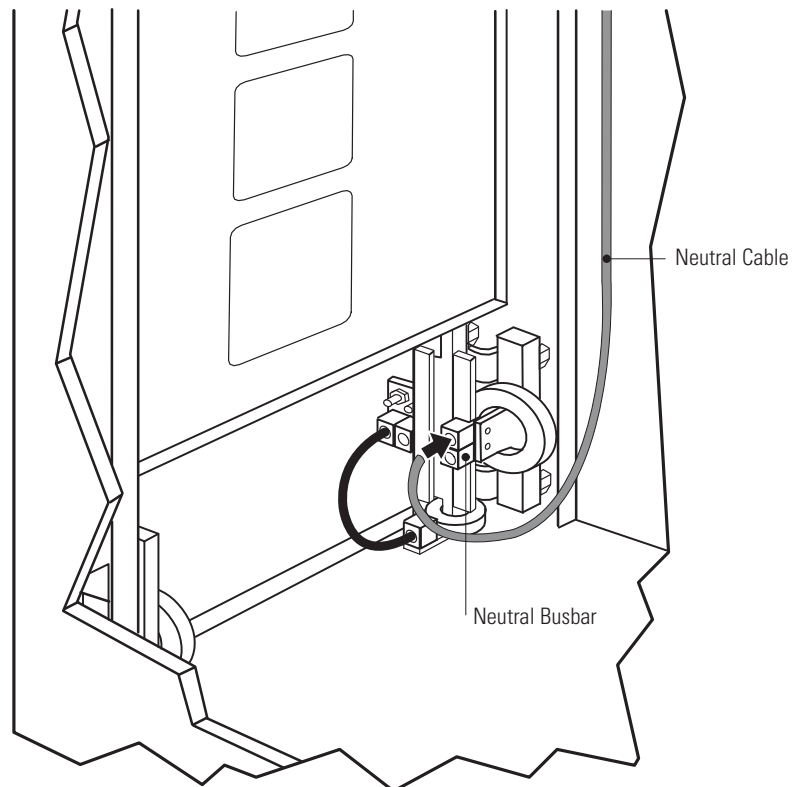

Figure 9. Installing the Neutral (Quad-Feed Input Configuration)
For the first or only panelboard, connect the neutral cable to the neutral busbar (see Figure 9, Table 2, and Table 3).
i NOTE Figure 9 shows top entry wiring and side access installation.
6. **Quad-Feed Input configuration.** The cabinet has a ground jumper installed from the chassis ground to the isolated ground busbar. Adjust the installation for the required ground system (see Figure 9, and Table 2, and Table 3 on page 12):